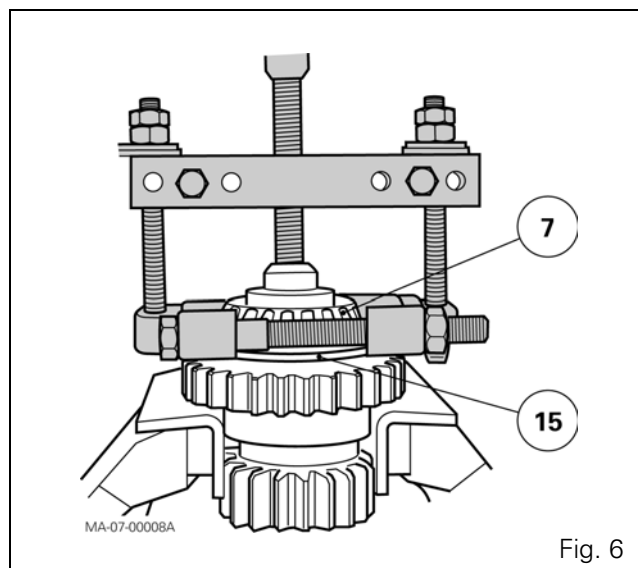

Fig. 6
27. Extract the cone (7) and the deflector (15) (Fig. 6) then remove cone (4).